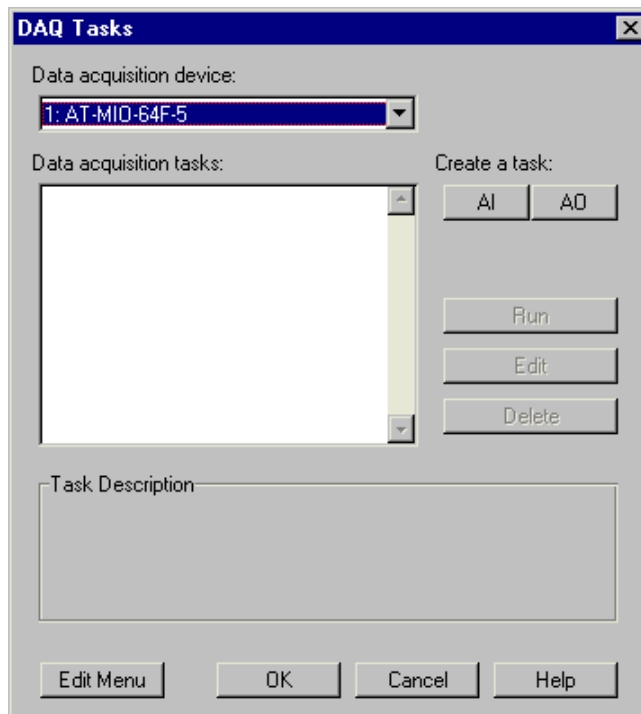

Figure 2-1. DAQ Tasks Dialog Box
2. Select **DAQ»Configure DAQ Task** to display the DAQ Tasks dialog box, shown in Figure 2-1.